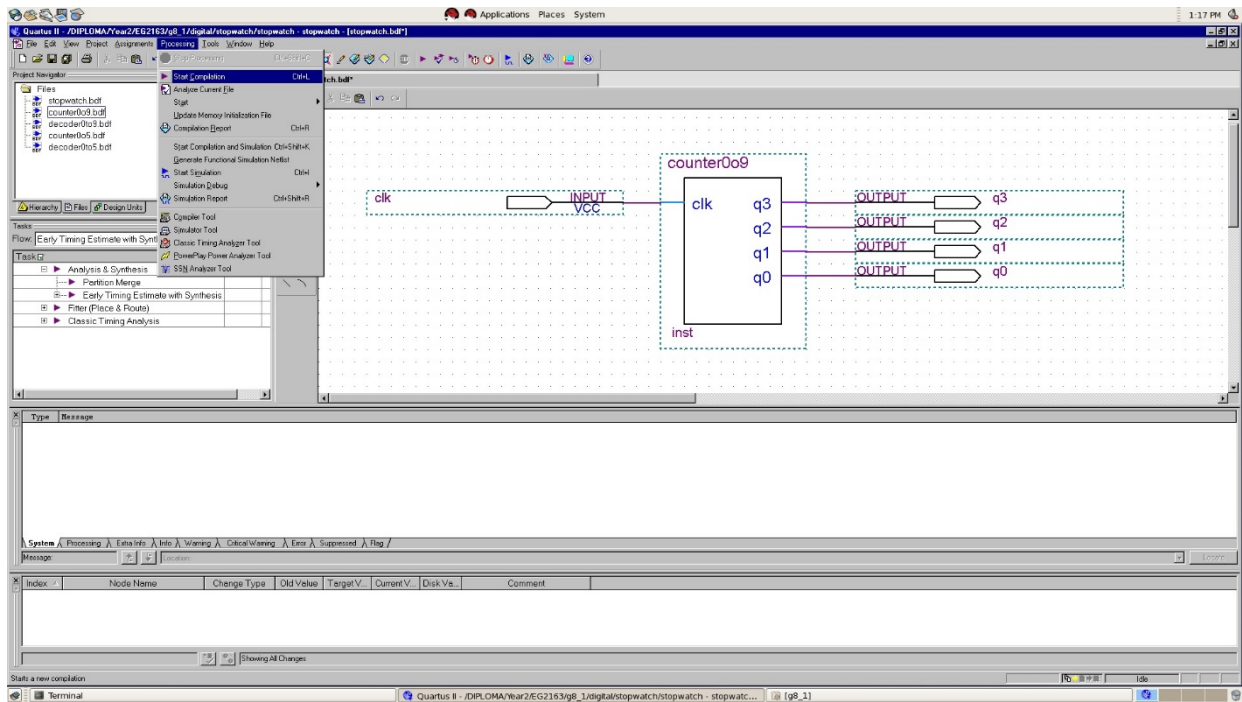

Figure 3.11 Compile the circuit
6. Compile the circuit **Processing > Start Compilation** as shown in Figure 3.11 or Click the  toolbar icon.